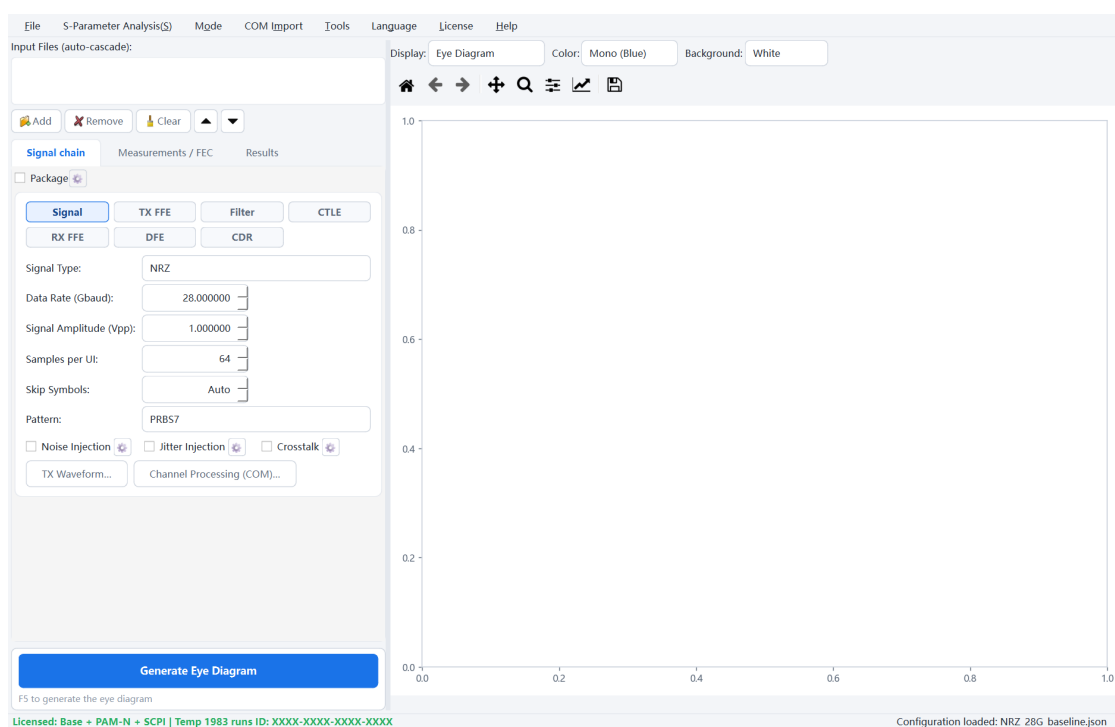

Fig. 1-1 The main window right after launch
Step 1 Launch RapidEyeAnalysis.exe and select **Mode** → **Normal**. Parameters are on the left and charts on the right (Fig. 1-1). Save any existing work, then clear the Input Files list so an old channel is not automatically cascaded with the demo.